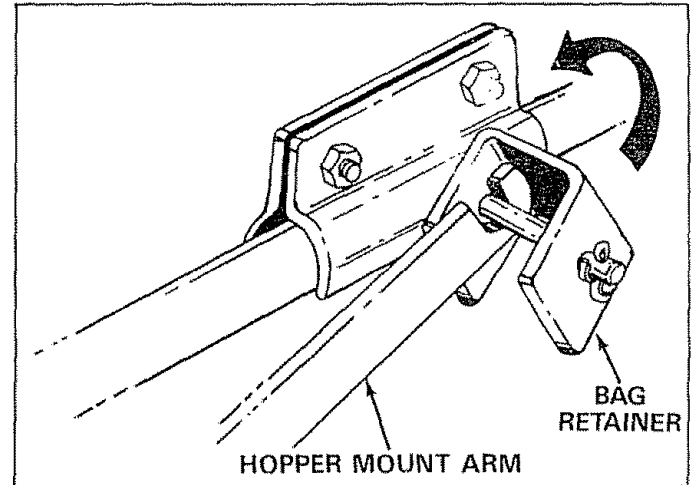

FIGURE 27
19. To remove the hopper bag frame from the sweeper, simply flip the bag retainers upward and remove the bag. See figure 27.